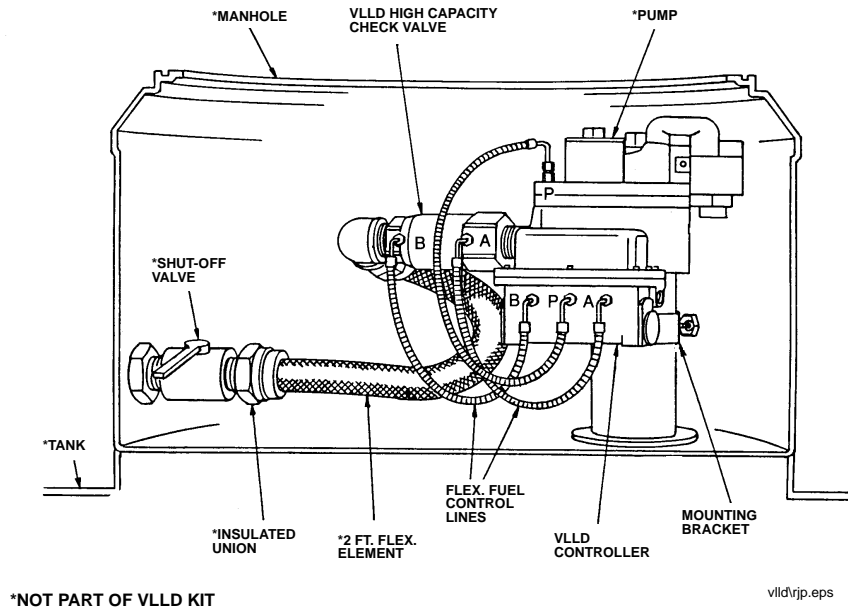
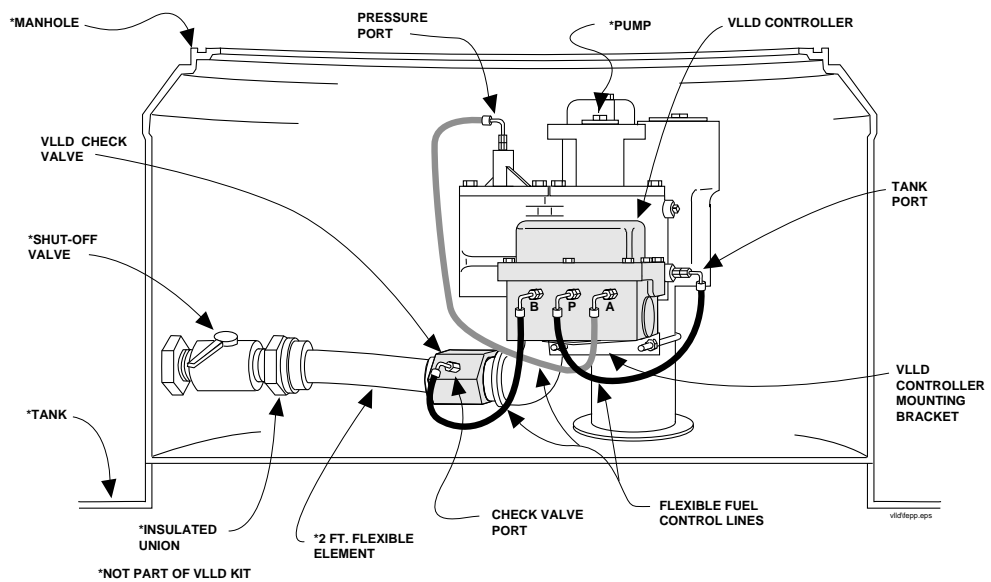

Figure 1. VLLD System Components - Red Jacket Pump
Figure 2. VLLD System Components - FE Petro Pump
This section illustrates and describes the major components of the VLLD [Figure 1 and Figure 2].
2. Review VLLD System Components [Figures 1 and 2 on page 6].